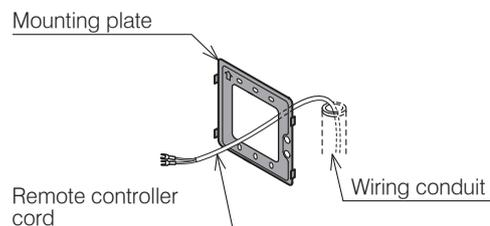

**Figure 7-1:** Removing the mounting plate
1. Slide the mounting plate downward to remove from the display pad (refer to Figure 7-1).